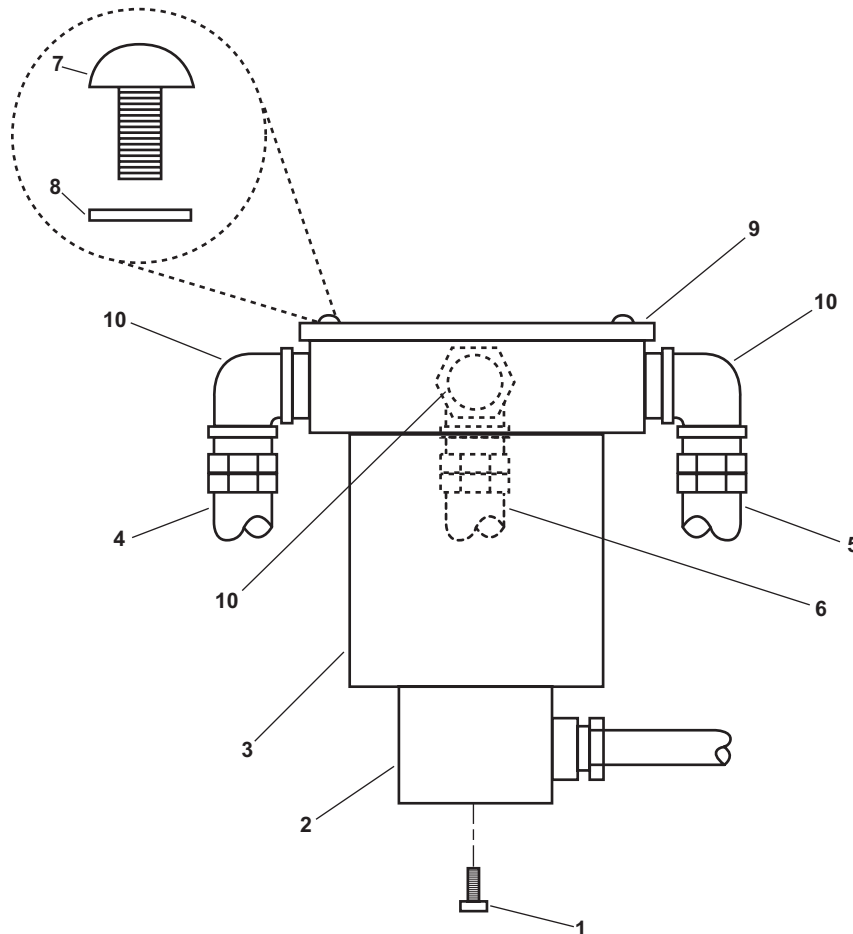

Figure 8. Product Water Diverter Valve
8. Remove the screw (figure 8, item 1) that secures the wire plug (figure 8, item 2) to the product water diverter valve (figure 8, item 3).
9. Pull the wire plug (figure 8, item 2) straight off of the product water diverter valve (figure 8, item 3).
10. Label and disconnect the tubing (figure 8, items 4, 5 and 6) from the product water diverter valve (figure 8, item 3).
11. Remove the four screws (figure 8, item 7) and four flat washers (figure 8, item 8) that secure the product water diverter valve (figure 8, item 3) to its foundation (figure 8, item 9).
12. Remove the pipe fittings (figure 8, item 10) from the product water diverter valve (figure 8, item 3). Retain the pipe fittings.
1. Wrap the male threads of the pipe fittings (figure 8, item 10) with four wraps of antiseizing tape.
2. Thread the pipe fittings (figure 8, item 10) into place on the product water diverter valve (figure 8, item 3) and tighten snugly into place.
3. Position the product water diverter valve (figure 8, item 3) on its foundation (figure 8, item 9) and secure it in place with four screws (figure 8, item 7) and four flat washers (figure 8, item 8).
4. Connect the tubing (figure 8, items 4, 5 and 6) to the product water diverter valve (figure 8, item 3).
5. Slide the wire plug (figure 8, item 2) onto the product water diverter valve (figure 8, item 3) and secure it in place with the screw (figure 8, item 1).